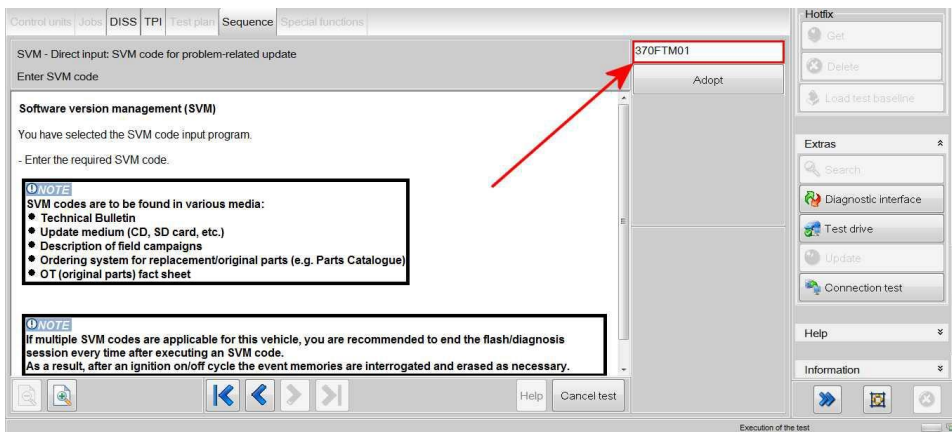

Figure 2
2) Referring to Figure 2 - Enter the SVM code 370FTM01